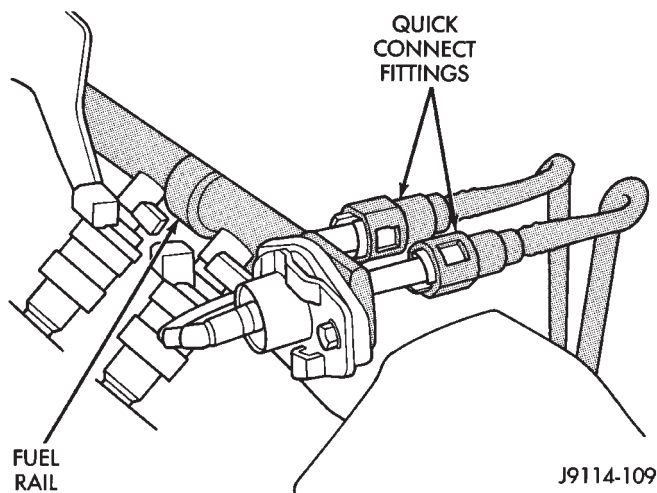

Fig. 20 Fuel Line Quick-Connect Couplings
- (3) Remove the radiator drain cock and radiator cap to drain the coolant. DO NOT waste usable coolant. If the solution is clean, drain the coolant into a clean container for reuse.
- (4) Disconnect the wire connectors from the generator.
- (5) Disconnect the ignition coil and distributor wire connectors.
- (6) Disconnect the oil pressure sender wire connector.
(7) Disconnect the wires at the starter motor solenoid and injection wire harness connector.
(8) Disconnect the quick-connect fuel lines at the fuel rail and return line by squeezing the two retaining tabs against the fuel tube (Fig. 20). Pull the fuel tube and retainer from the quick-connect fitting (refer to Group 14, Fuel System for the proper procedure).
(9) Remove the fuel line bracket from the intake manifold.